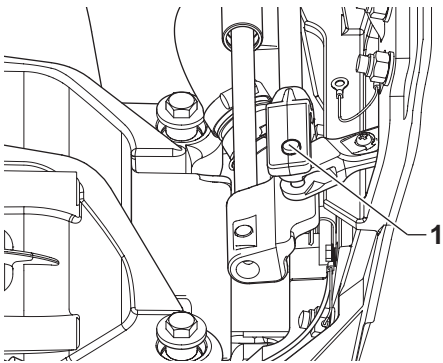

Figure 4-7
- 3. Lubricate the steering system clevis pin (**Figure 4-7, 1**).